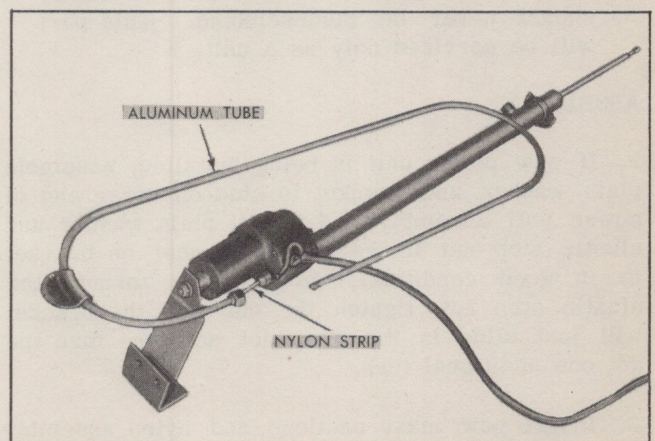

Fig. 12 Aluminum Tube Detached
2. Unscrew nut holding aluminum tube to motor and carefully slide tube down away from motor to remove nylon strip from tube (Fig. 12).